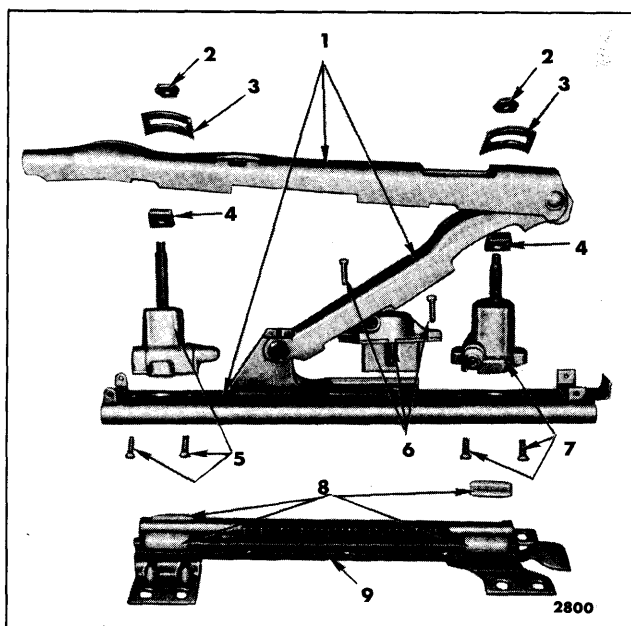

Fig. 15-15—Six-Way Seat Adjuster Components -
5. At top of adjuster, remove both vertical gearnut attaching nuts and tension springs (Fig. 15-15).
6. Lay adjuster on its side and remove front vertical gearnut attaching screws (Fig. 15-15); then, remove gearnut from adjuster.
6. Lay adjuster on its side and remove rear vertical gearnut attaching screws; then, remove gearnut from adjuster (Fig. 15-15).